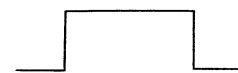

Fig. 26B Monostable multivibrator actual waveforms
In an actual case, pulse lines from the noise detector circuit are more than one ((1) in Fig. 26B). The next pulse in a series is applied before the Schmidt trigger reaches the invert level, therefore, the wave form on Pin 10, IC2, will be (2) in Fig. 26B and output from schmidt circuit will be (3) in Fig. 26B.